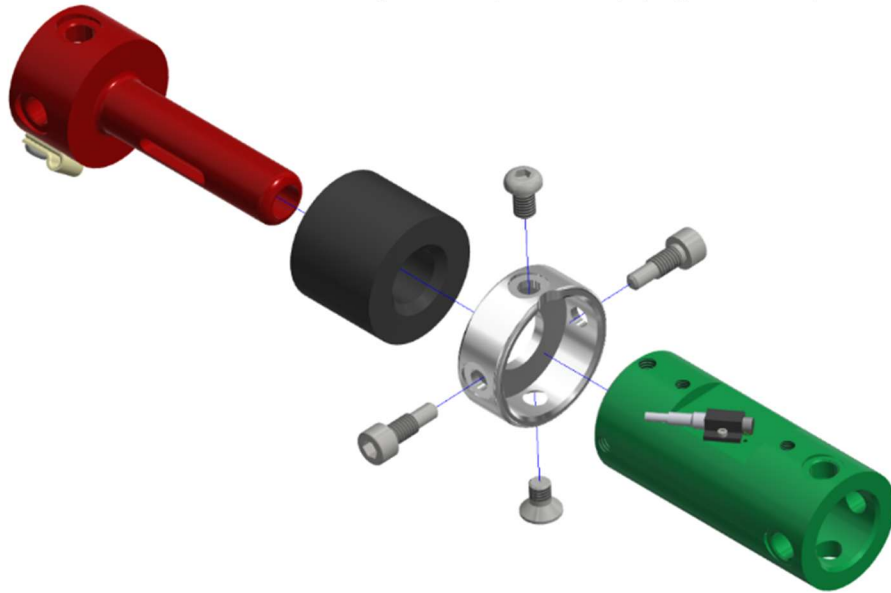

Figure 10-14. Separate the Tibia Compliant Element Assembly (474-5508) from the Lower Tibia Shaft (474-5540-1,2)
10.2.10 Separate the Tibia Compliant Element Assembly (474-5508) from the Lower Tibia Shaft (474-5540-1,2) by removing one M6 X 1 X 10 LG. FHCS, one M6 X 1 X 10 LG. BHCS, and two Tibia Plunger Pins (474-5512) (Figure 10-14).